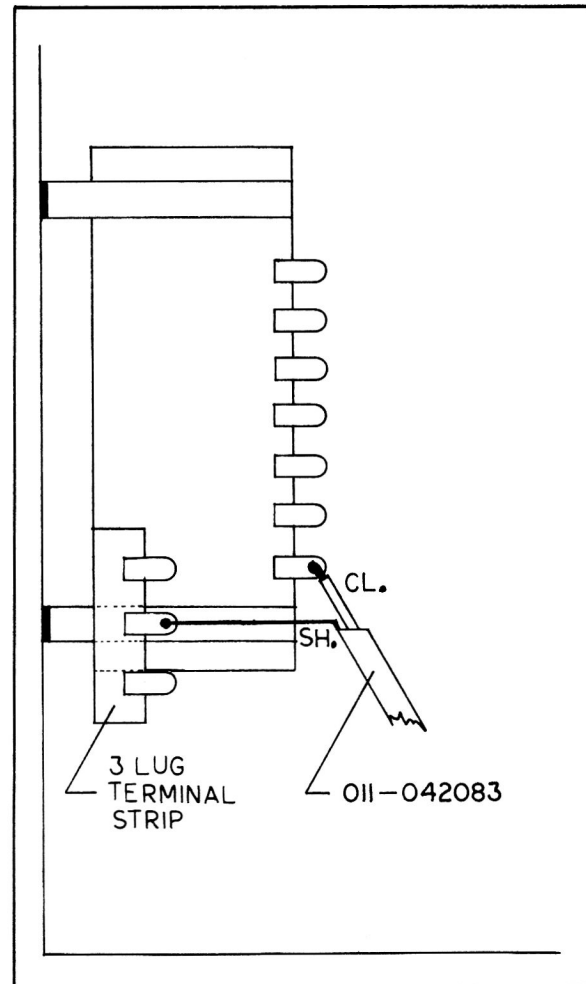

FIGURE 2-3.
4. Route wire to Pedal Control Board mounted on left (rear view) end wall of organ. Connect center conductor to bottom lug on right side of Pedal Control Board. Connect shield to 3-lug terminal strip mounted on end wall next to Pedal Control Board. See Figure 2-3.